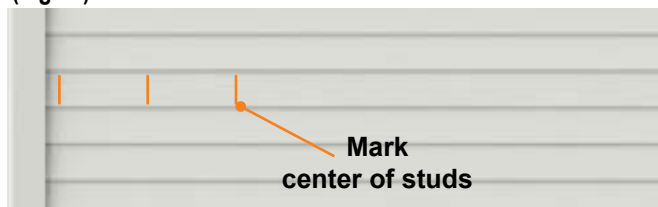

Fig.57
2. Using a stud finder or other method, locate and mark the centers of the studs at the intended solar panel installation site (Fig.57).